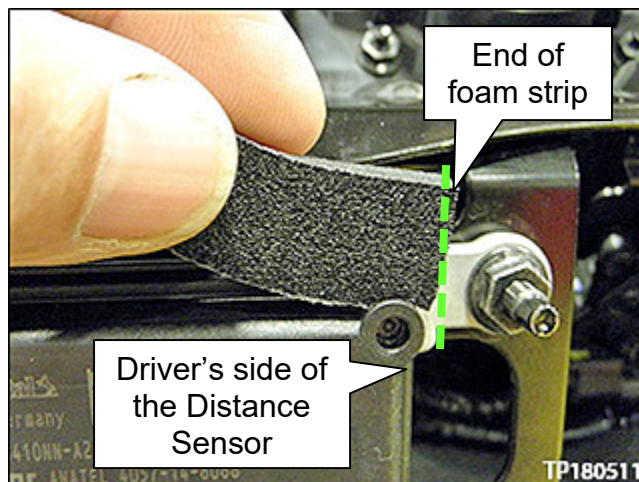

Figure 5
- b. Align one end of the foam strip to the driver's side and raised edge of the Distance Sensor where shown in Figures 5, 6, 7 and 8, and then start to attach.